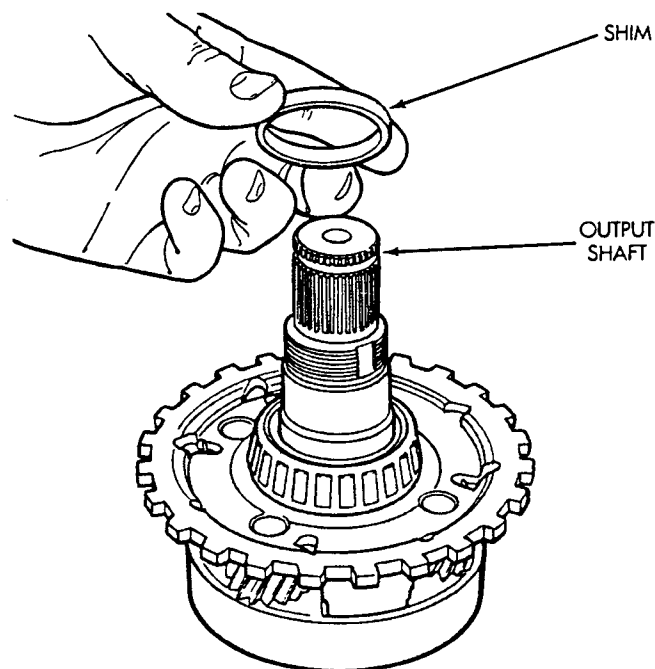

Fig. 4 Shim Installation
(5) Install shim on output shaft (Fig. 4). Apply small amount of petrolatum onto the shim to hold it in place. Use the original shim as a starting point. If original shim is not available, use the thickest shim available. Refer to Output Shaft Rear Shim Chart for available sizes.